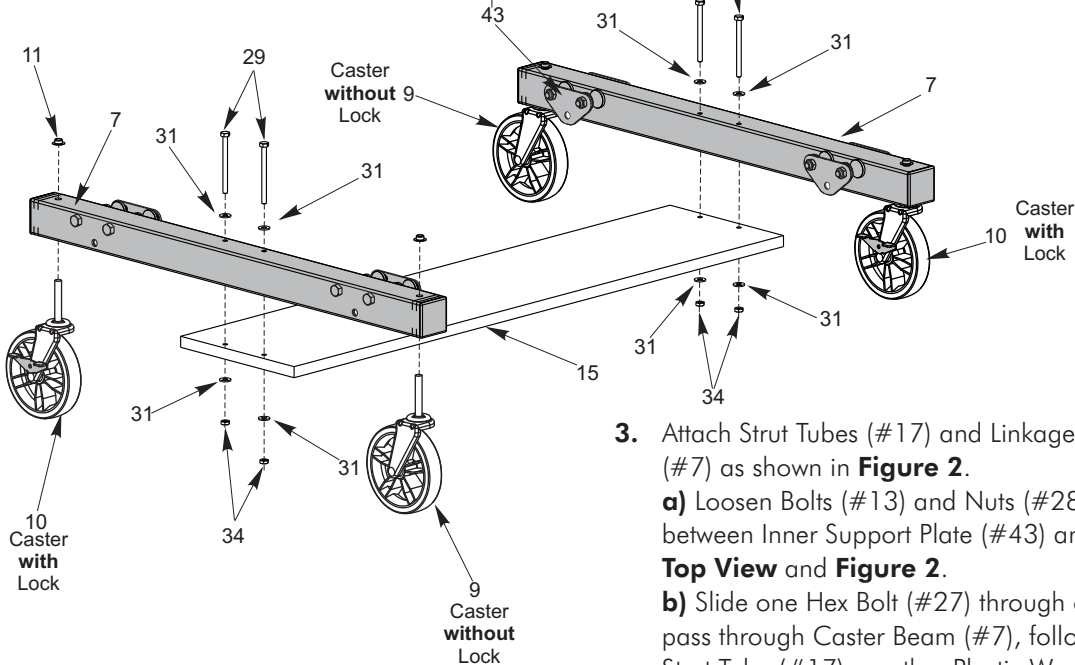

Figure 1
1. Attach Caster Wheels (#9 & #10) to Caster Beam Assembly. Slide a Caster Wheel **with** Lock (#10) through Caster Beam Assembly (#7) and secure it with a Push Nut (#11) as shown in **Figure 1**. Gently tap the Push Nut (#11) with a hammer to secure it in place. On the other end of the Caster Beam attach a Caster Wheel **without** Lock (#9). Make sure you have one caster wheel with lock and a caster wheel without lock for each Caster Beam Assembly.
2. Attach Wood Bottom Board (#15) to Caster Beam Assemblies (#7) as shown in **Figure 1**. Turn Caster Beams as shown and attach board with four Hex Head Bolts (#29), eight Flat Washers (#31) and four Locknuts (#34). Tighten nuts securely.
2. Loosen Nuts (#34) attached to bolt (#29) in order to create enough slack to align table tops. See Figure 1.